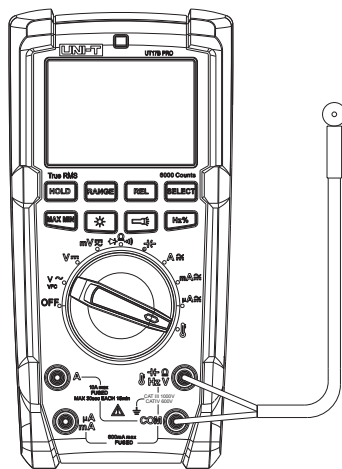

Figure 8
9.8 Temperature Measurement (Only UT17B PRO) (See Figure 8)